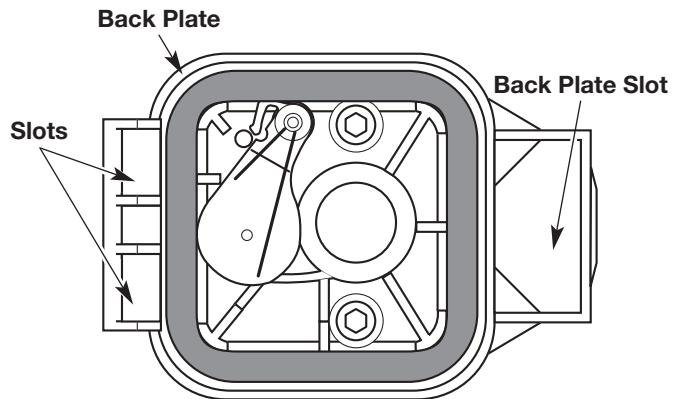

Fig. 48
6. Replace the filter (Fig. 48).
7. Reinstall the air filter cover. Position the hooks on the left side of the air filter cover into the slots at the left side of the back plate (Fig. 48).
8. Swing the cover to the right until the tab on the air filter cover snaps into place in the slot on the back plate (Fig. 48).